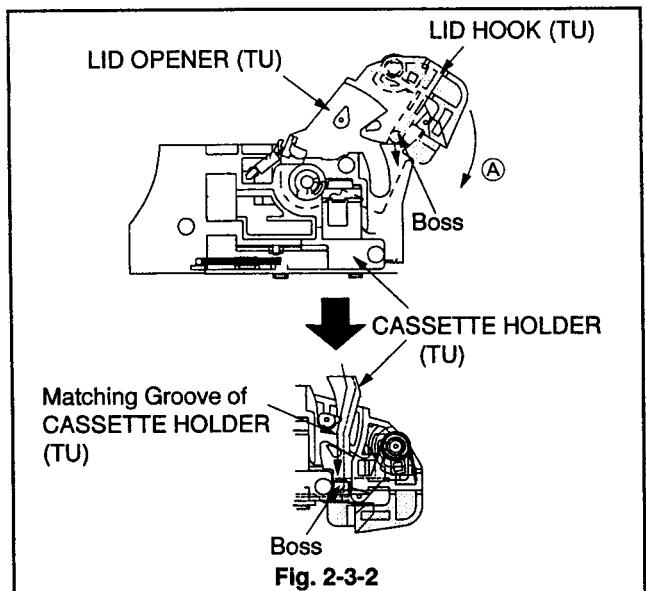

Fig. 2-3-2
3. Move the LID HOOK (TU) shown in Fig. 2-3-2 in the direction shown by arrow (A).
4. Move the LID HOOK (TU) and the LID OPENER (TU) in the direction shown by arrow (B) in Fig. 2-3-3 so that the boss of the LID HOOK (TU) shown in Fig. 2-3-2 is inserted in the Matching Groove on the CASSETTE HOLDER (TU).